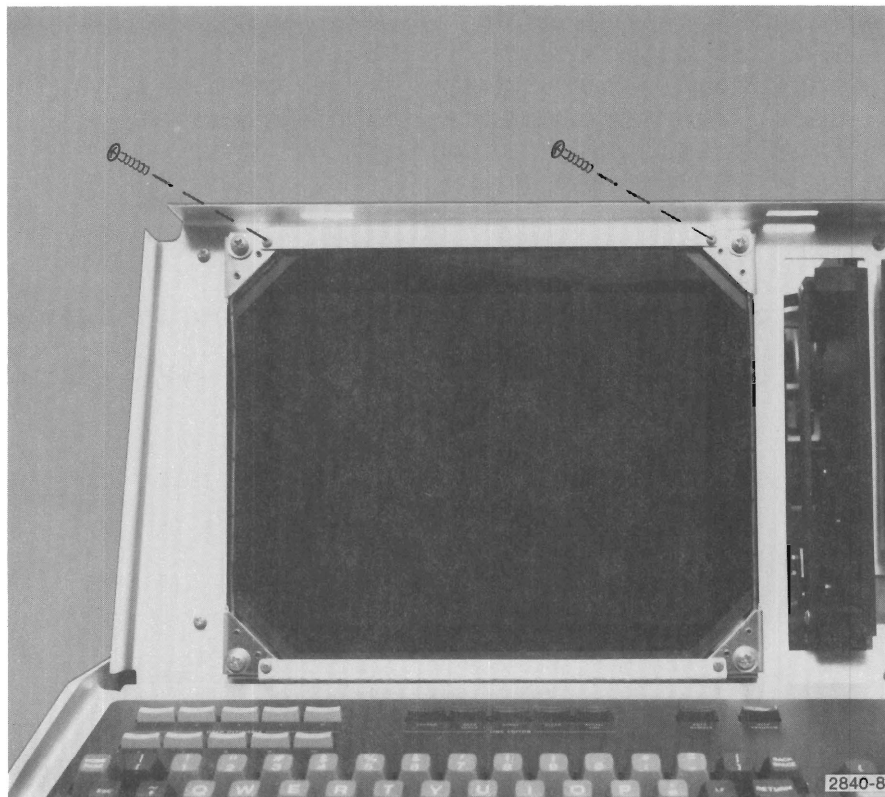

Figure 3-14. CRT Filter Access and Removal.
3. Remove the top angle bracket from the crt mounting assembly (Figure 3-14). After removing one screw from each end, loosen the screws on the lower angle bracket.